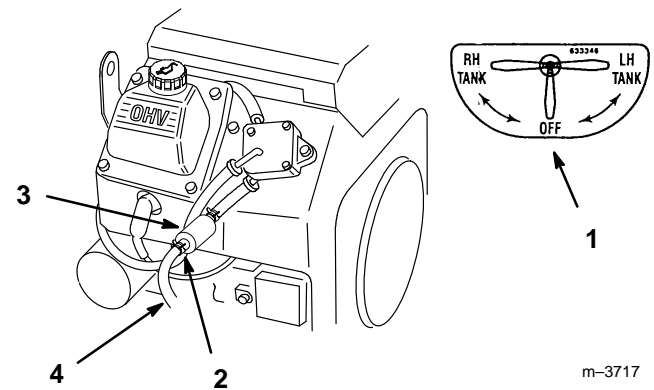

Figure 26
5. Install a new filter and move the hose clamps close to the filter (Fig. 26).
2. Close fuel shut-off valve (Fig. 26).
3. Loosen the hose clamp at the fuel filter and slide it up the fuel line away from the fuel filter (Fig. 26).
4. Pull the fuel line off fuel filter (Fig. 26). Open fuel shut-off valve and allow gasoline to drain into a gas can or drain pan.
5. Install the fuel line onto the fuel filter. Slide the hose clamp close to the fuel filter to secure the fuel line (Fig. 26).